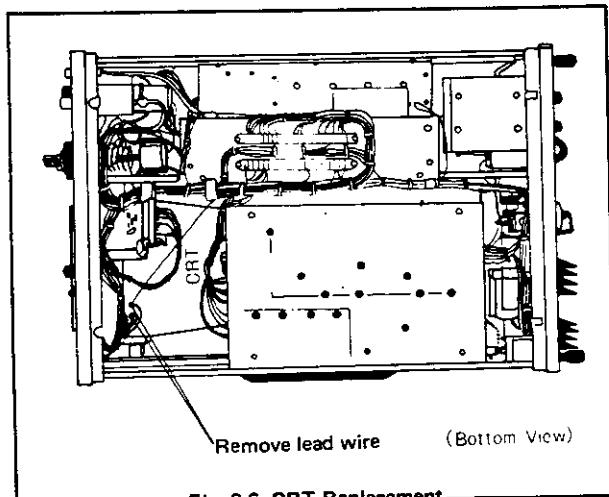

Fig. 6-6 CRT Replacement
- 2) Disconnect the lead wire from CRT coil as shown in [Fig. 6-6].